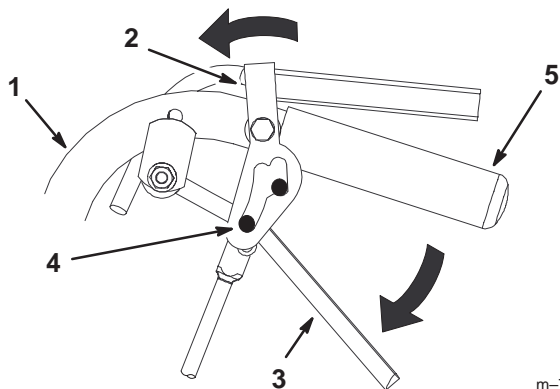

Figure 17
1. Squeeze the drive levers back to the grip slightly (Fig. 17).
2. Place thumbs on the upper part of the neutral locks and rotate them forward until in forward slot (Fig. 17).
1. Pull the brake handle rearward (Fig. 17).